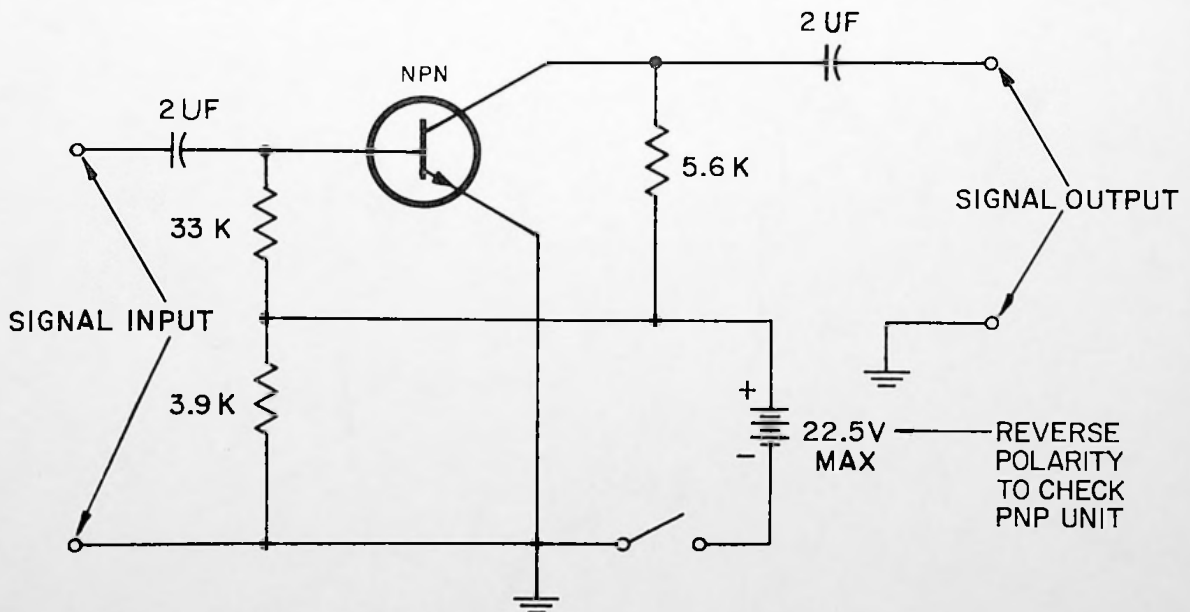

Figure 2. Voltage gain test circuit.
a. Voltage Gain Measurement. Figure 2 shows a simplified low frequency test arrangement for an NPN transistor in a grounded emitter circuit. An audio oscillator may be used as the signal source with the input being applied between the base and emitter, and the output being taken between the collector and ground. The input and output amplitudes are measured with an ac, vacuum-tube voltmeter (vtvm) and compared to determine the voltage gain of the transistor. The computed gain is compared with the rated gain of the transistor, or with the gain of similar transistors known to be good. The voltage gain of transistors at high frequencies can best be checked by measuring the input and output amplitudes under actual operating conditions.